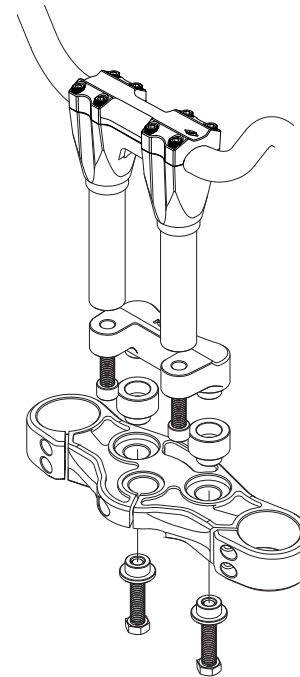

Fig. 6
1. Install bars and risers onto top triple tree. **(See fig. 6)**